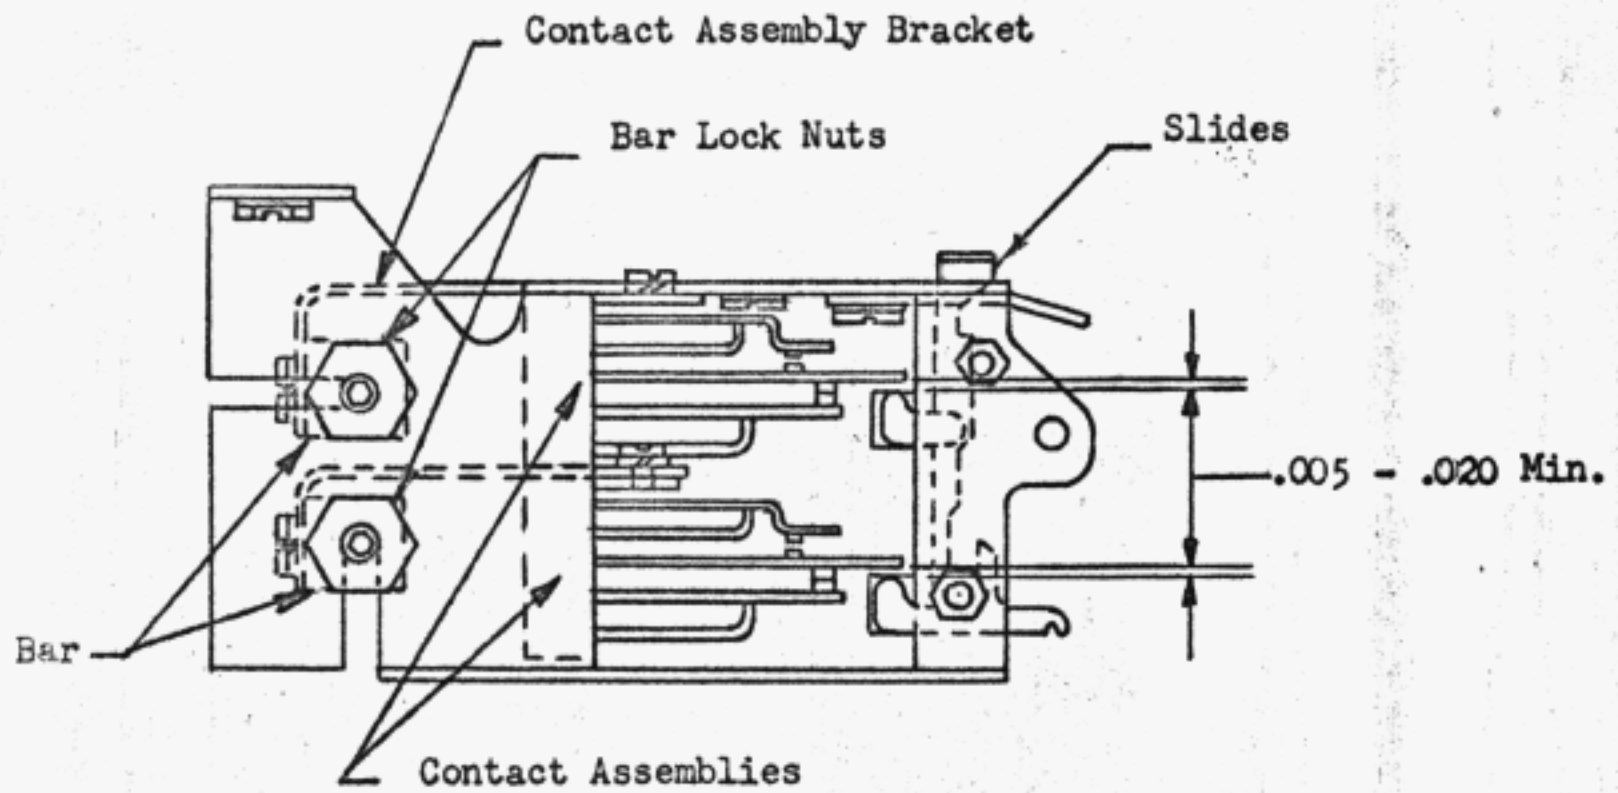

FIGURE 1
- (1) Requirement: As viewed from the bottom of the storing block assembly, the contact assembly swingers shall be approximately centered on their respective sensing slide extensions as gaged by eye.
- (2) To adjust: Loosen the contact assembly mounting screws and position to meet requirement.
**\*d.** Slide Lever Adjustment (Figures 1 and 2)
- (1) Requirement: With the contact assemblies installed in the unit, and the slides selected and latched, there shall be .005" to .020" between all sensing slides and contact swingers.
- (2) To Adjust: Loosen the contact assembly mounting bar lock nuts and the contact assembly bracket mounting screws to friction tight. Insert an Allen wrench and position the contact assemblies as per requirement by rotating the bar and pivoting the contact assembly bracket.
- \*\* (5) Installation of LBXD8 for AIDS and CODIS RT Sets is identical to ADIS installation except that the gear shift mechanism is replaced by a single speed gearing mechanism.
- \*\* (6) Installation of the LBXD22 in CODIS Coding Transmitter will result in the meshing of the distributor shaft gear with the cross shaft gear of the gang mounted transmitting distributor base.
- (b) There are two 36 Pin Connectors on the bottom of the LBXD22. The one with wires coming from the code reading contacts remounts above the other. Detach both connectors from the LBXD22 and attach to Mounting Plate 161483. Refer to Specification 5940S, Figure 1. Use same 42827 Screw and 70072 Lockwasher as was used to hold connectors to LBXD22.